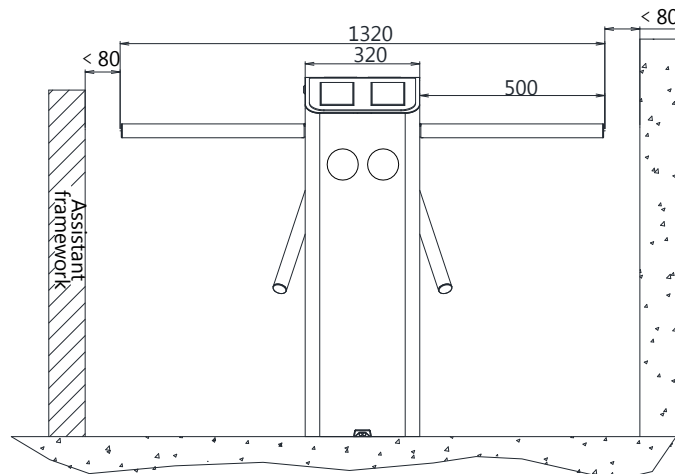

Figure 3-1
You are suggested to install an assistant framework or fence to form a passageway, as shown in figure 3-1.
1. The space at the end of the arm shall not be greater than 80mm (see figure 3-1).